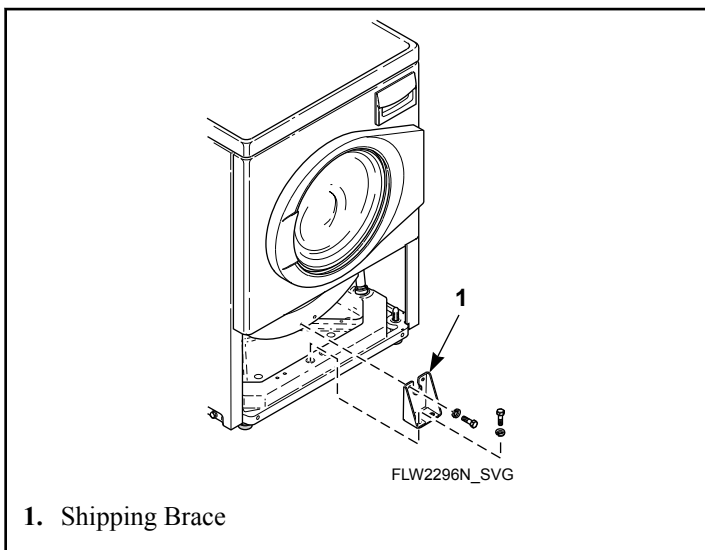

Figure 39
4. Attach shipping brace to weight and base using four bolts and washers. Refer to *Figure 39*.